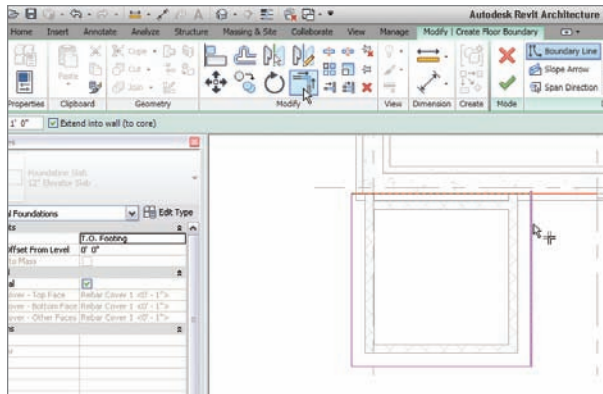

FIGURE 8.62 Trimming up all the corners
2. Trim any overlapping corners, as shown in Figure 8.62.